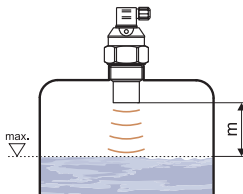

Fig. 2: Level meter dead zone
- d) In compliance with the measurement principle, no signals reflected in the area directly below the level meter (the so-called dead zone) can be evaluated. The dead zone (Fig. 2) determines the **minimum distance** possible between the level meter and the highest surface level. Medium minimum distance parameters are listed in chapter on „Technical specifications“.